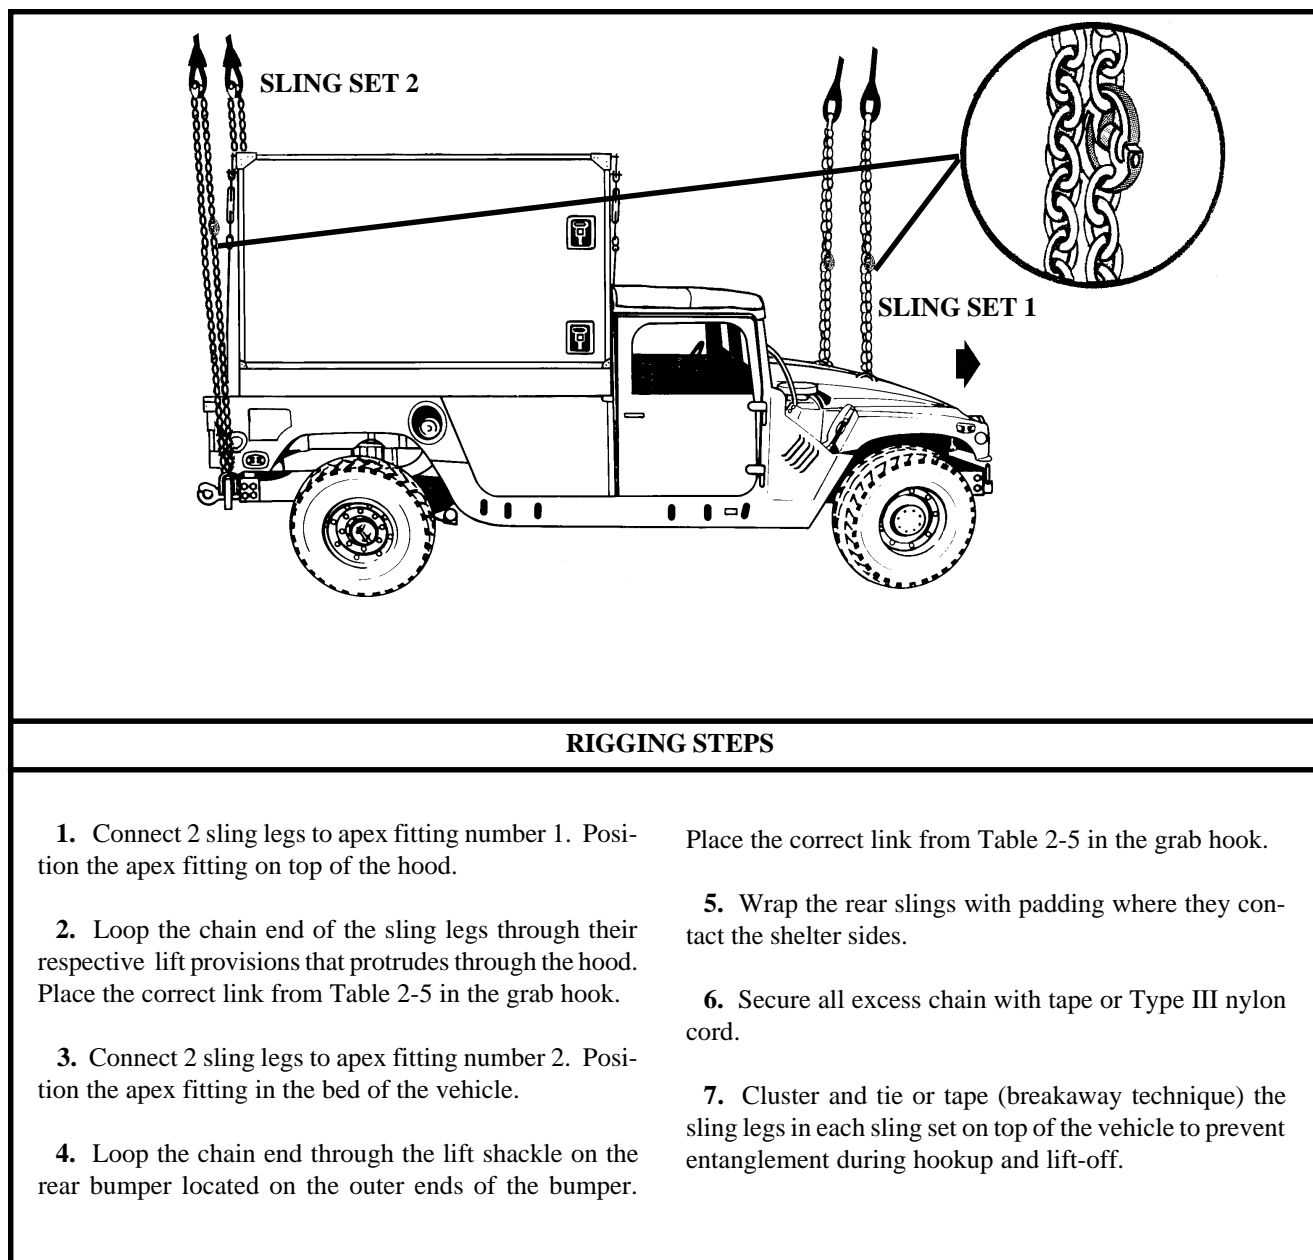

Figure 2-5. M1097 Shelter Carrier with S-250/S-250E Shelter
- (1) **Preparation.** Prepare the load using the following steps:
- (2) **Rigging.** Rig the load according to the steps in Figure 2-5.
- (3) **Hookup.** The hookup team stands on top of the shelter. The static wand person discharges the static electricity with the static wand. The forward hookup person places apex fitting 1 onto the forward cargo hook. The aft hookup person places apex fitting 2 onto the aft cargo hook. The hookup team then carefully dismounts the vehicle and remains close to the load as the helicopter removes slack from the sling legs. When successful hookup is assured, the hookup team quickly exits the area underneath the helicopter to the designated rendezvous point.
- (4) **Derigging.** Derigging is the reverse of the preparation and rigging procedures in steps d (1) and d (2).